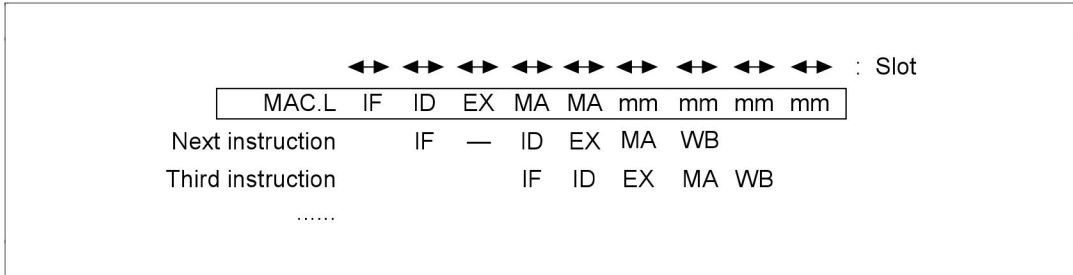

Figure 8.34 Multiply/Accumulate Instruction Pipeline
Operation: The pipeline has nine stages: IF, ID, EX, MA, MA, mm, mm, mm, and mm (figure 8.34). The second MA reads the memory and accesses the multiplier. The mm indicates that the multiplier is operating. The mm operates for four cycles after the final MA ends, regardless of a slot. The ID of the instruction after the MAC.L instruction is stalled for one slot. The two MAs of the MAC.L instruction, when they contend with IF, split the slots as described in Section 8.4, Contention Between Instruction Fetch (IF) and Memory Access (MA).